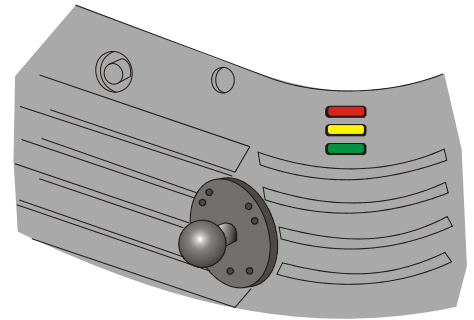

Figure 8-1 Projector Status LEDs
- Check the status of the LEDs on the rear corners of the projector. (Figure 8-1). If there is no activity, see #3.